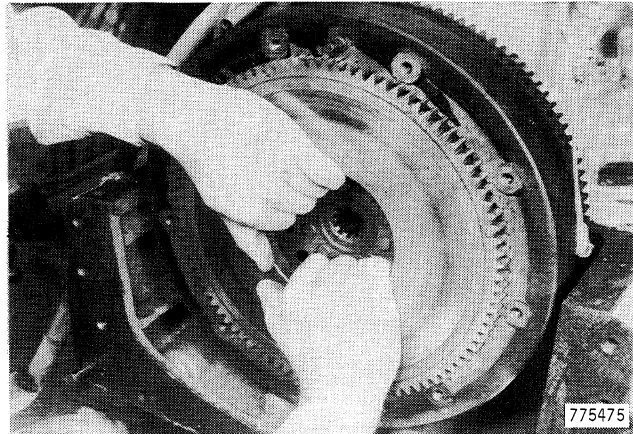

Figure 112
- 17. Install the separator plate with the marks on the separator plate and flywheel in alignment, Figure 112.